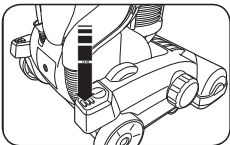

Fig. 3
1. To turn the vacuum on, push the power pedal on the side of the vacuum nozzle (Fig. 3).